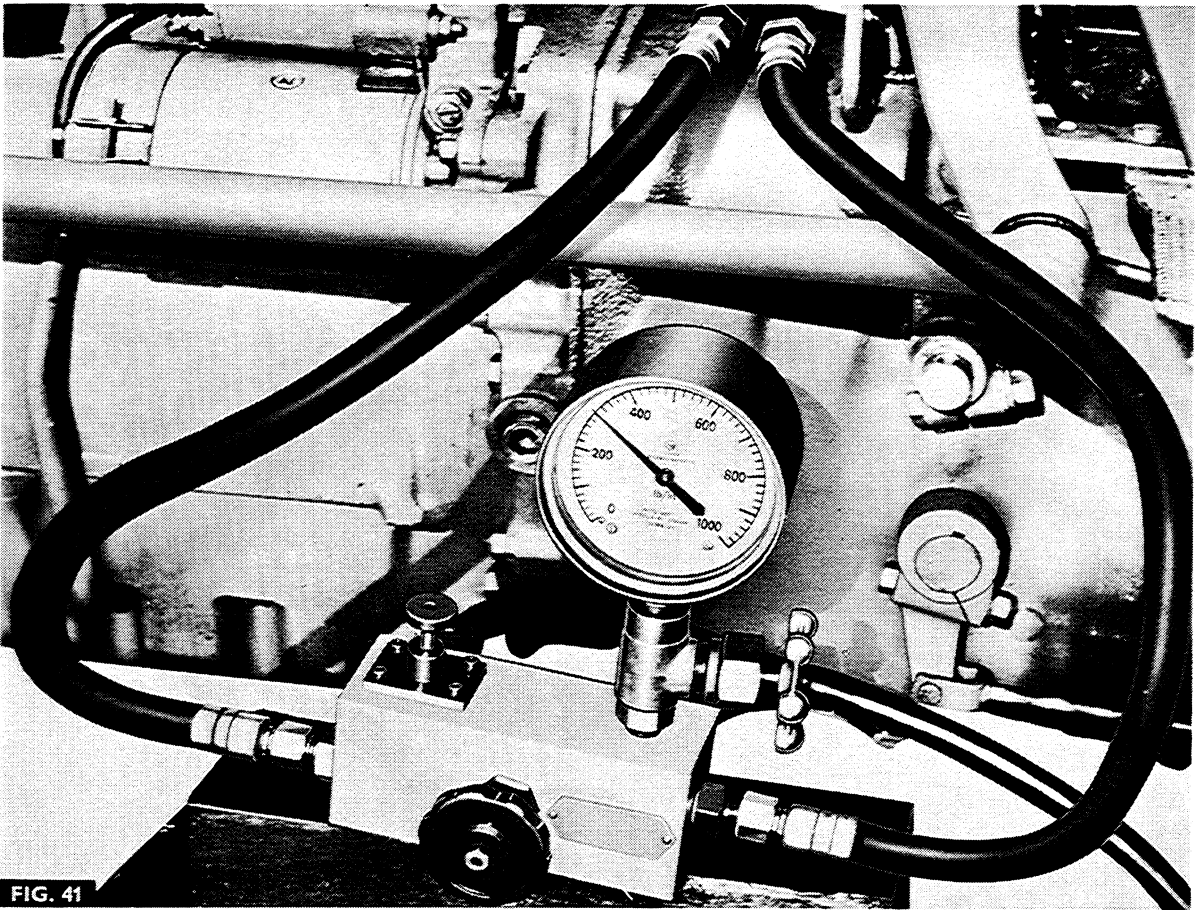

FIG. 41
3. Fig. 41. Release the second Multi-Power pipe and fit another MF 810-4/1 adapter, then attach the 810 kit as shown (INLET hose to REAR pipe). Fit 70 Kg/cm2 (1000 lb/in2) gauge to the 810 kit.